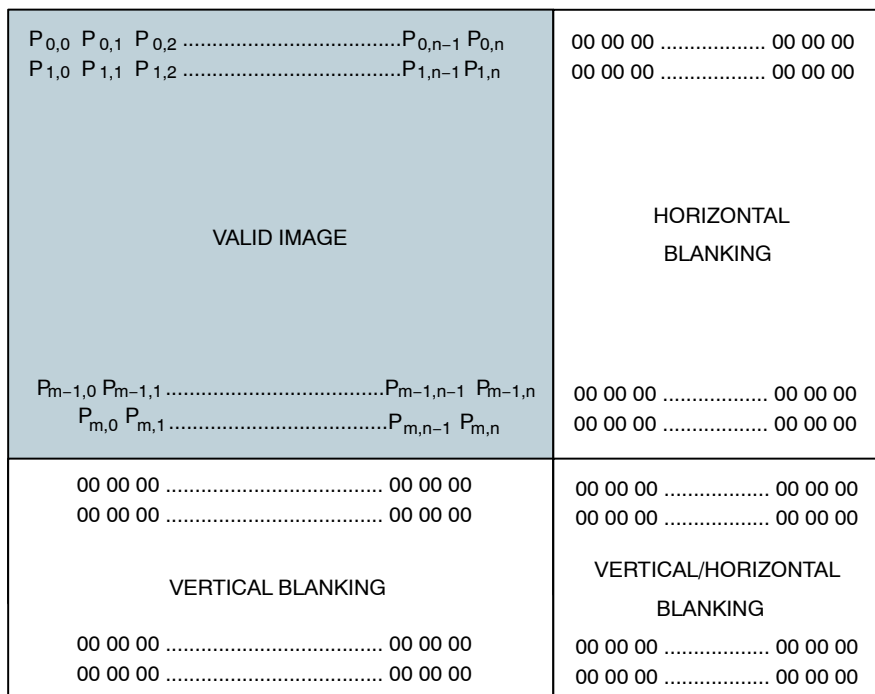

Figure 7. Spatial Illustration of Image Readout
The MT9M034 image data is read out in a progressive scan. Valid image data is surrounded by horizontal and vertical blanking (see Figure 7). The amount of horizontal row time (in clocks) is programmable through R0x300C. The amount of vertical frame time (in rows) is
programmable through R0x300A. Line_Valid (LV) is HIGH during the shaded region of Figure 7. Optional Embedded Register setup information and Histogram statistic information are available in first 2 and last row of image data.
Sensor timing is shown in terms of pixel clock cycles (see Figure 7). The recommended pixel clock frequency is 74.25 MHz. The vertical blanking and the total frame time equations assume that the integration time (coarse integration time plus fine integration time) is less than the number of active lines plus the blanking lines: